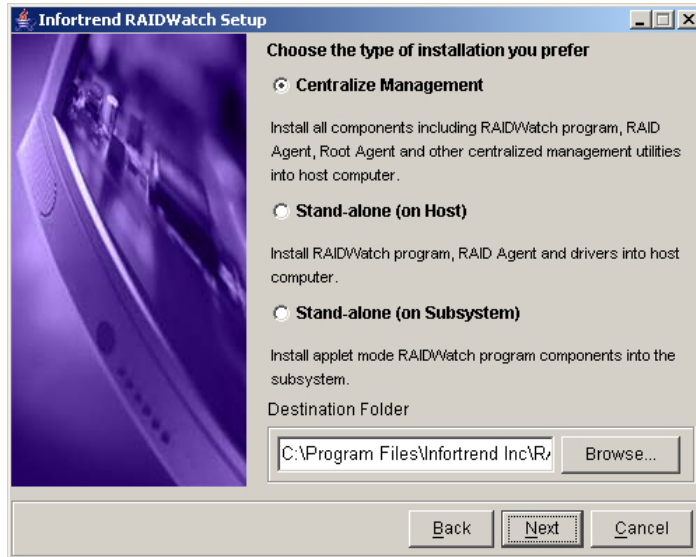

Figure 3-8: Advanced Installation Options
**Step 4.** If you choose the *Custom* install on the previous screen, three (3) installation modes will appear. These modes, shown in *Figure 3-8*, are *Centralized Management*, *Stand-alone (on Host)*, and *Stand-alone (on Subsystem)*.